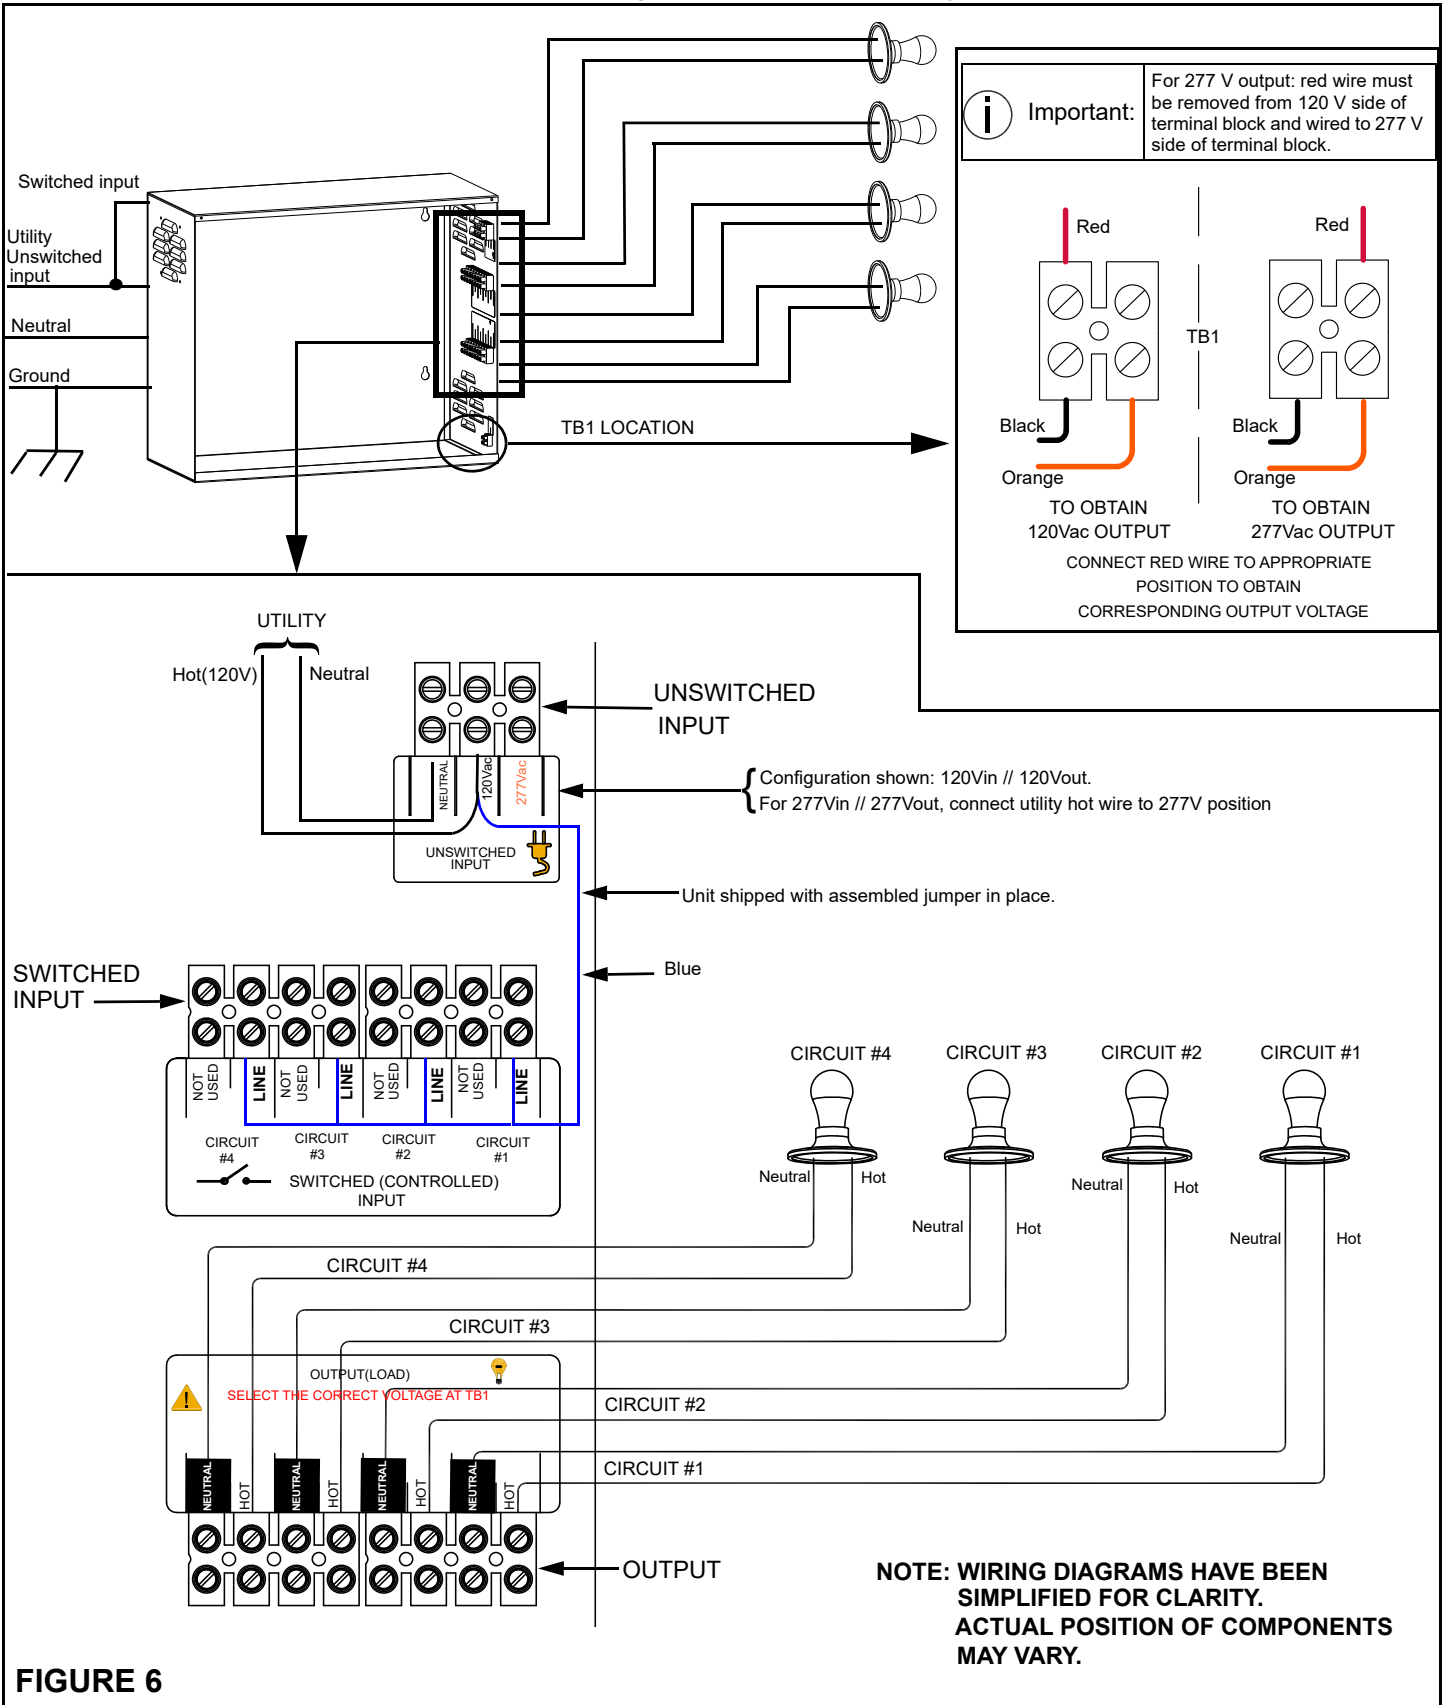

FIGURE 6
- Identify the terminal block for UNSWITCHED INPUT (figures 6, 7, 8 or 9).
- a. **Normally-On Operation** (Refer to Figure 6 for wiring details) - Fixtures remain illuminated in normal AC and emergency modes.
Refer to the applicable wiring diagram in figures 6, 7, 8 and 9 to connect the utility AC power and external control devices (where applicable). Perform all wiring procedures in accordance with applicable codes. The unit is shipped configured to operate in Normally-On mode by using an assembled jumper. This jumper can be removed to configure the SWITCHED INPUTS as desired.
- c. Identify output terminal block (refer to figures 6, 7, 8 and 9).